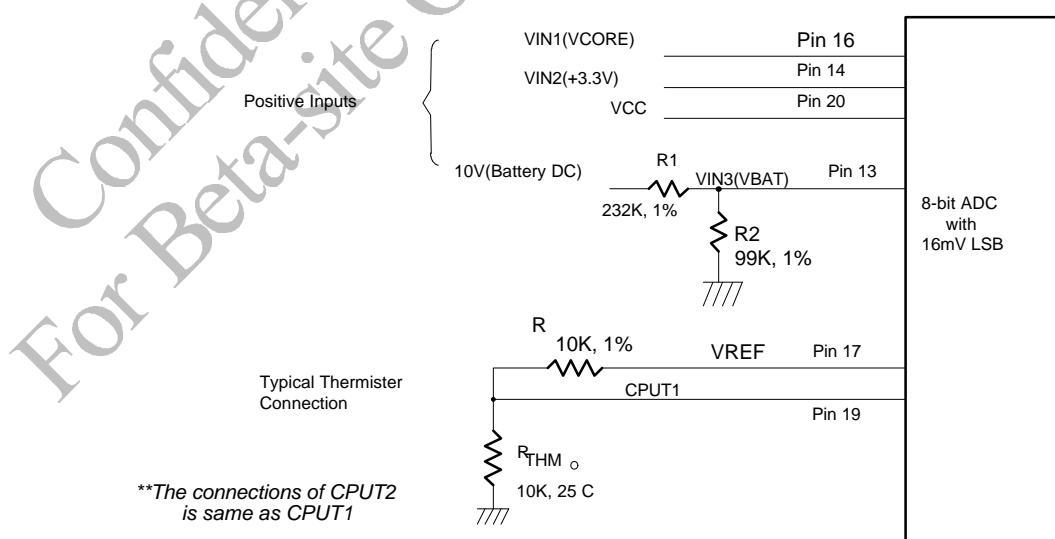

Figure. 10.
The maximum input voltage of the analog pin is 4.096V because the 8-bit ADC has a 16mV LSB. Really, the application of the PC monitoring would most often be connected to power suppliers. The CPU V-core voltage and +3.3V voltage can directly connected to these analog inputs. The 5VSB and battery inputs should be reduced a factor with external resistors so as to obtain the input range. As Figure 10 shows.
The W83L784R can connect three thermistors to measure three different envirment temperature. The specification of thermistor should be considered to (1)  $\beta$  value is 3435K, (2) resistor value is 10K ohms at 25°C. In the Figure 10, the themistor is connected by a serial resistor with 10K Ohms, then connect to VREF (pin 17).